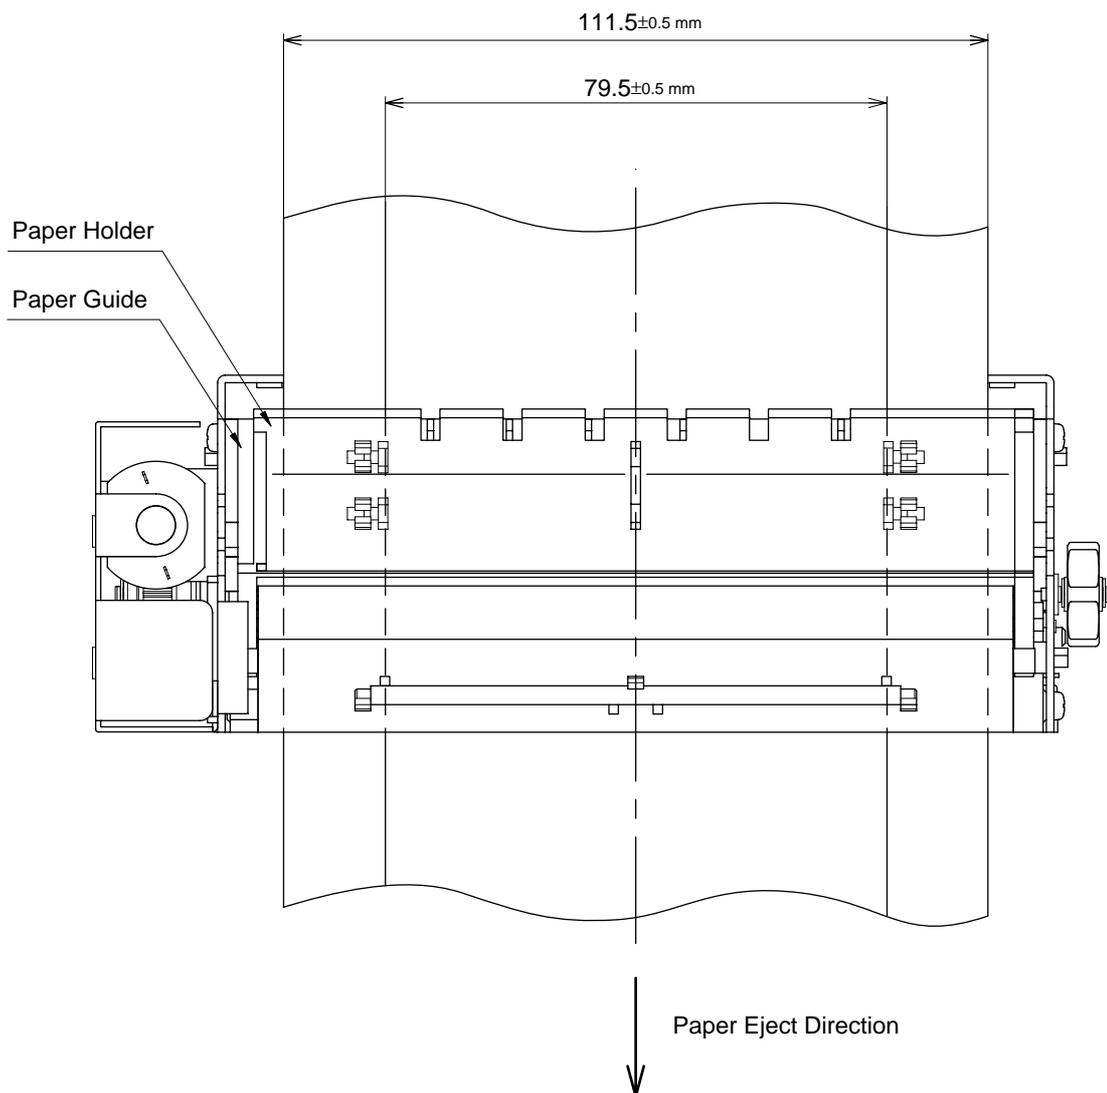

Figure 8-1
8.1 Setting Paper (See Figure 8-1)